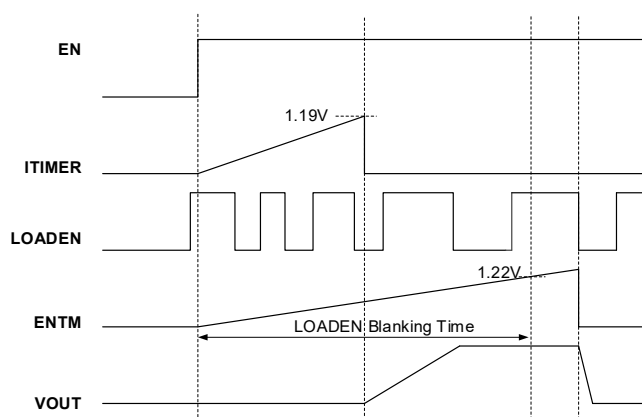

Figure 5. LOADEN Blanking Time
When the enable signal (EN) is asserted high, LOADEN incorporates a programmable blanking time to inhibit de-assertion during the specified interval (refer to Figure 5). All fault detection functions remain enabled during startup. The power FET shuts down immediately upon fault detection. A transition of LOADEN to low during the blanking period does not deactivate the power FET switch.